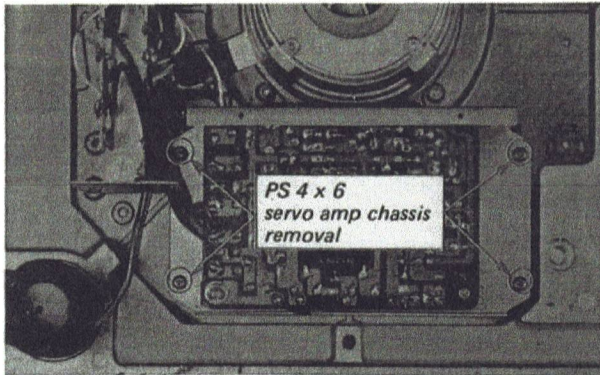

Fig. 2-5. Servo amplifier chassis removal
2. Remove the four screws (PS 4 x 6) shown in Fig. 2-5. This frees the chassis.